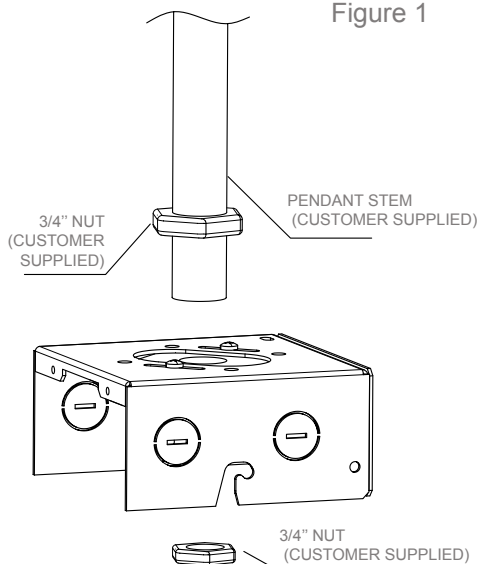

Figure 3
3. Feed the customer supplied pendant stem and leads through the top opening of junction box. Tighten the pendant stem by customer supplied 3/4" NUT until secure. See Figure 3.